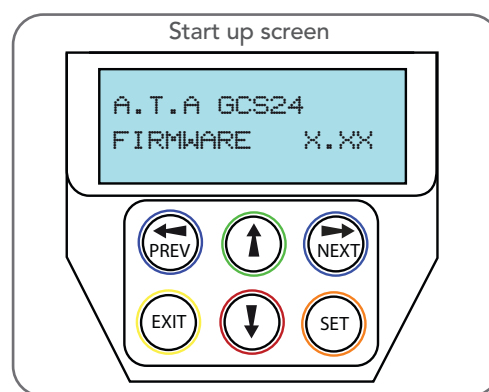

Fig 7.2
- After checking the initial wiring, apply power to the DCB-05V2. The controller will go through a startup sequence displaying the STARTUP SCREEN which indicates the controller type and firmware version (**Fig. 7.2**). After a short delay the MAIN SCREEN will be displayed.